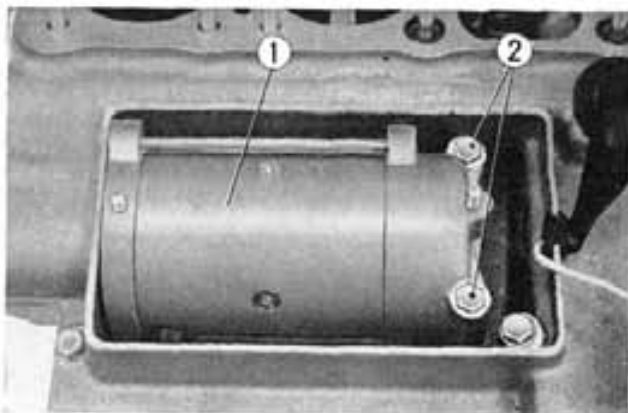

Fig. 9-4 ① Starting motor
2. Remove the starting motor cover from the upper crankcase and detach the starting motor. (Fig. 9-4)